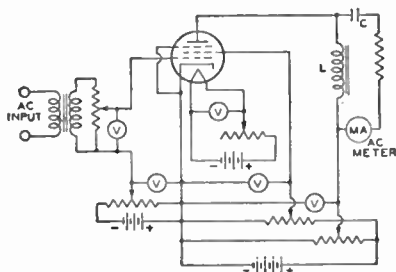

Fig. 87
Fig. 87 shows the fundamental circuit of a power-output test for class A operation of tubes. The diagram illustrates the method for a pentode. The ac output voltage developed across the plate-load impedance (L) is indicated by the current meter. The current meter is isolated as far as the dc plate current is concerned by the capacitor (C). The power output can be calculated from the current reading and known load resistance. In this way, it is possible to determine the operating condition of the tube quite accurately.